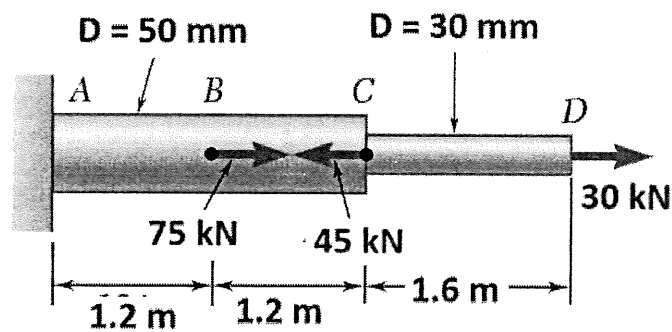

Figure 1
- b) Shaft ABC is made of aluminium ($E= 75 \text{ GPa}$) with diameter of 50 mm. While Shaft CD is made of Steel ($E=200\text{GPa}$) with diameter of 30 mm. The rods experiencing loadings as shown in Figure 1.